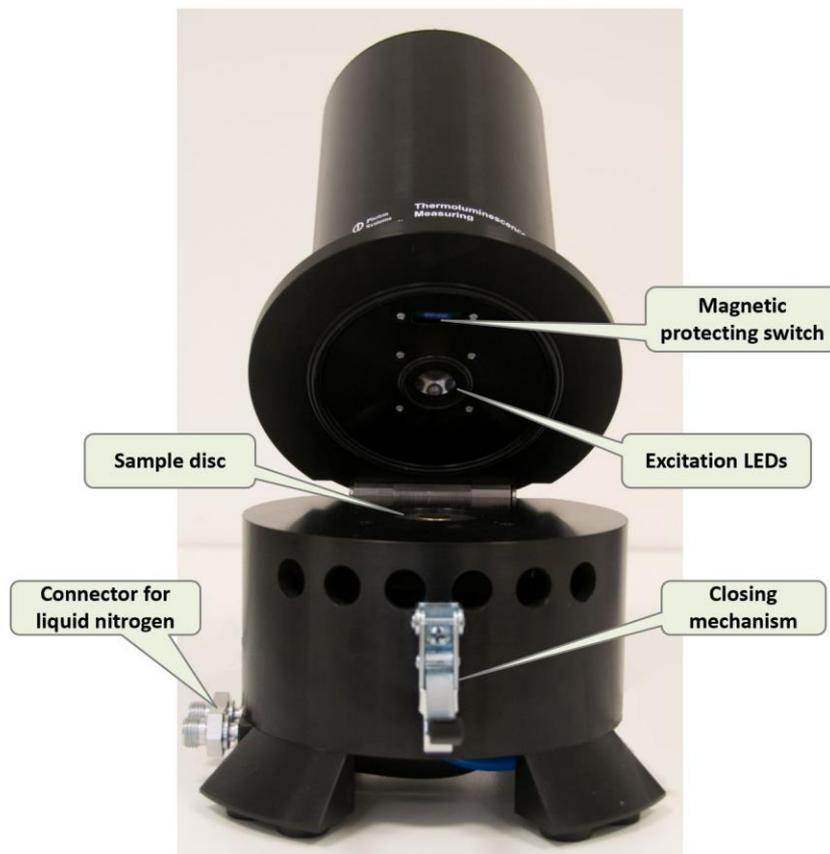

Fig. 2 TL 6000 measuring unit.
The body of the TL 6000 Measuring unit (MU) is composed of two mechanical sub-units: top, optical part and bottom thermo-regulating segment (Fig. 2 and Fig. 3).